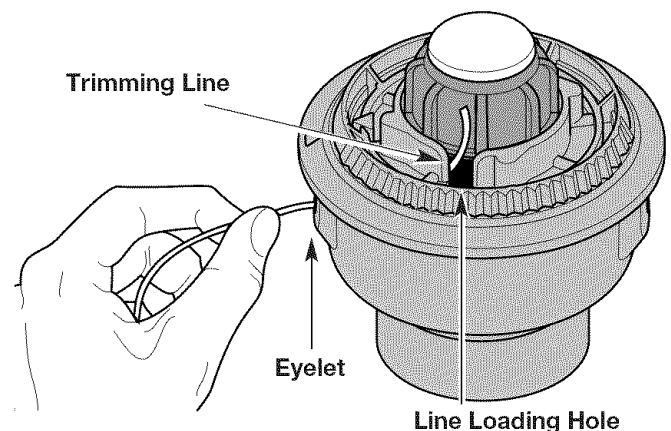

Fig. 15
NOTE: Before installing new trimming line onto the existing reel, remove any old line from the RapidRewind Head by pulling the line out of the line loading or locking holes (See Figs. 15 and 16 for location of holes).
2. Insert 10 feet (3 m) of trimming line into one of the two eyelets and push it up through the line loading hole in the reel (Fig. 15). Do not bend the line when inserting it into the eyelet.